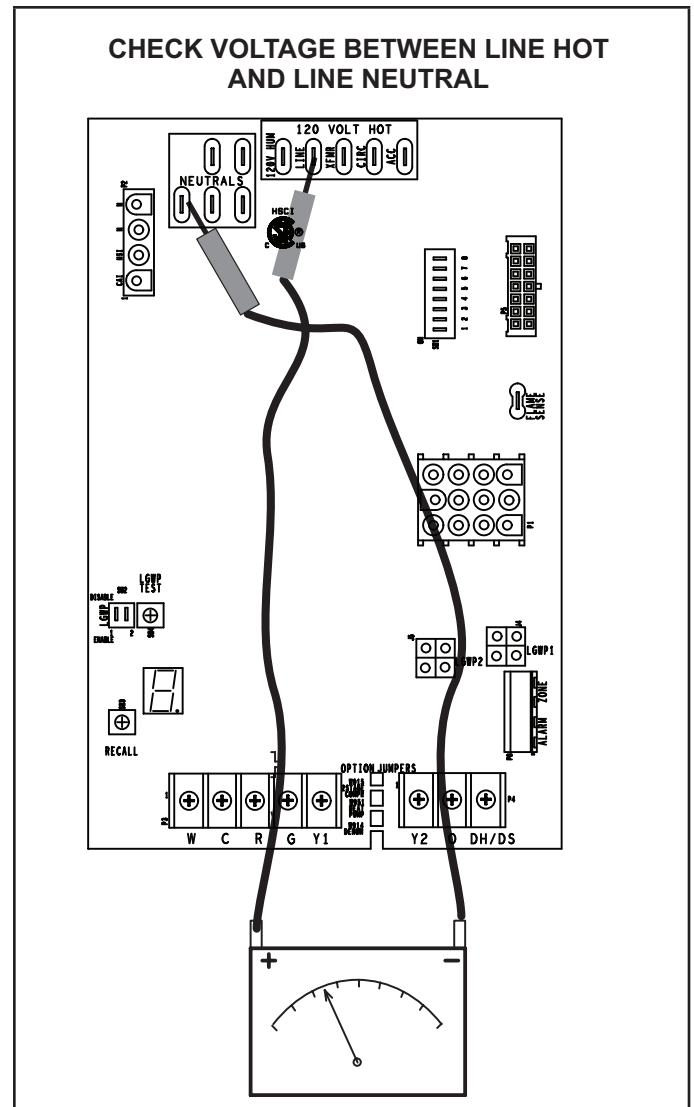

FIGURE 23
- 2 - In addition, measure the AC voltage from Line Hot to Line Neutral (spade terminals) on the integrated control. See FIGURE 23. This voltage should be in the range of 97 to 132 Vac.